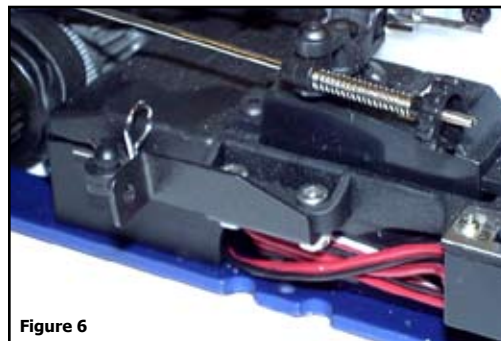

Figure 6
**5.** Attach *Cage Mount 3* to the left-side rollbar mount tab as shown in *Figure 6*. Put *Cage Mount 3* on the underside of the rollbar tab, and secure with *M3x8 SHCS* and *M3 Lock Nuts*.